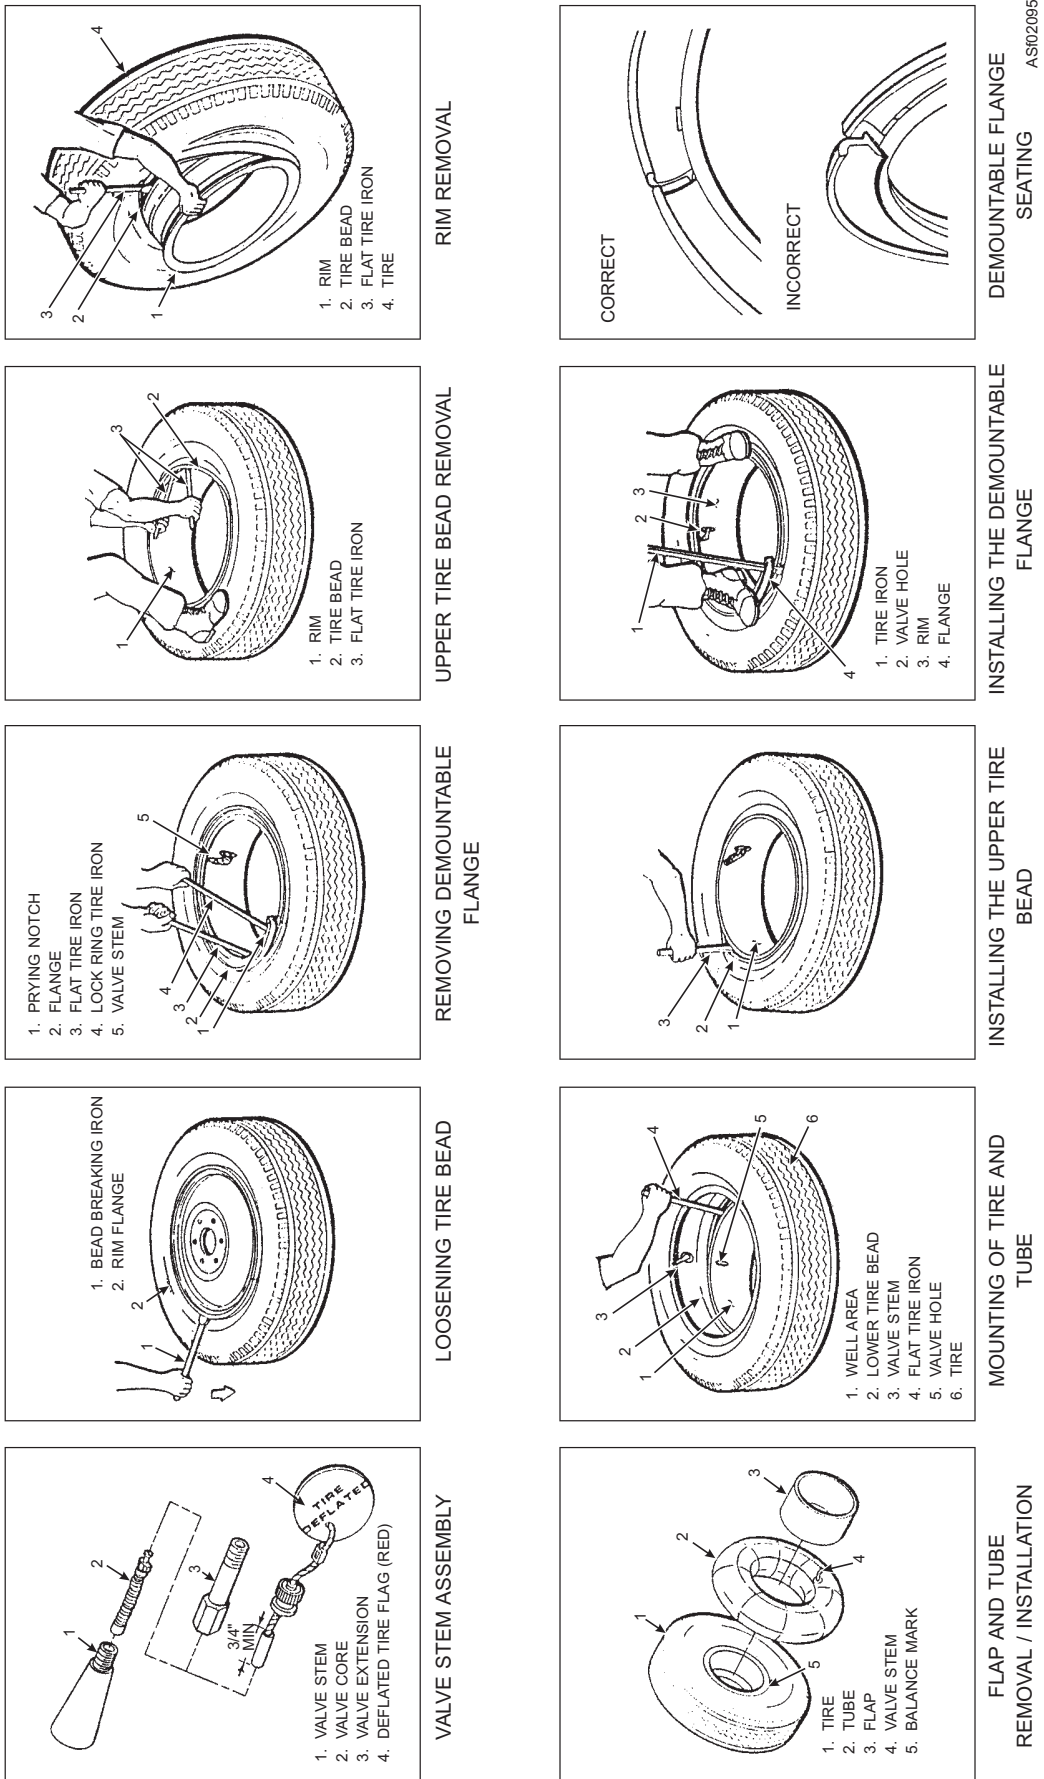

Figure 2-95.—Demountable flange teardown and buildup.
3. Deflate the tire to be removed, remove the valve core, and install a deflated tire flag (fig. 2-95). If the valve stem is equipped with a valve extension, remove the extension valve core and extension first. Wheels being removed to facilitate other maintenance need only be deflated to storage pressure, which is one-half the service pressure or 15 psig, whichever is less.
1. Loosen both tire beads from the rim flanges by inserting a bead breaking iron between the rim flange and the tire bead (fig. 2-95). Work progressively around the rim, rotating the bead breaking iron down and forcing the bead completely into the center well area. Turn the wheel over and repeat the procedure.
2. With the demountable flange side facing up, insert the lock ring tire iron, curved side up, into prying notch (fig. 2-95). With the iron, pry the flange partly out of the rim. Insert a flat tire iron adjacent to the lock ring tire iron and work both irons progressively around the rim until the flange is completely removed.
4. Hold the upper tire bead down into the well area of the rim (fig. 2-95). On the opposite side of the rim, insert a flat tire iron between the upper bead and the rim. Pull the tire iron down, lifting the tire bead partly off the rim. Use a second tire iron to work progressively around the rim, completely removing the upper tire bead.
5. Stand the wheel upright. Push down on the rim so the inner tire bead is positioned in the well area (fig. 2-95). Insert a flat tire iron between the inner tire bead and the rim. Pry the tire free of the rim.
6. If the tire has a tube, remove the flap and tube from the tire (fig. 2-95). Inspect all parts for wear, deterioration, or other defects. If the rim is to be reused, it should be cleaned, coated, and finished according to maintenance instructions.
1. If you are installing a tube in the tire, dust it with talcum powder ZZ-T-416 to assist in assembly and to reduce chafing. Insert the tube and flap into the tire (fig. 2-95). Align the valve stem with the balance mark on the side of the tire. Inflate the tube slightly to hold the tube and flap in place and to prevent it from becoming wrinkled or pinched.
3. Place the rim on rubber matting with the demounting flange side up (fig. 2-95). Place the tire on the rim, and align the valve stem with the valve hole. If necessary to force the tire bead down into the well area, tap it in using a rubber hammer. Be careful not to damage the tire bead seat. Use a flat tire iron to force the lower tire bead completely into the rim well area. Guide the valve stem through the valve hole in the rim.
4. Use a flat tire iron to pry the upper tire bead over the edge of the rim (fig. 2-95). Force the bead completely into the well area of the rim.
5. Place the end of the demountable flange, without the prying notch, into the gutter of the rim (fig. 2-95). Insert the tire iron into the notch of the flange and under the gutter of the rim. Pry the flange over the edge of the rim. Hold the flange, and work progressively around the rim until the flange is completely down into the gutter. Shift the tire and the tube on the rim to center the valve stem in the rim valve hole.
6. Inspect the wheel to insure that the flange is fully seated under the rim gutter (fig. 2-95). The opening between the flange ends should be 3/32 inch to 5/16 inch (1/4 inch is optimum).
1. Remove the valve core (or deflated tire flag), and attach the tire valve adapter to the valve stem (fig. 2-95).